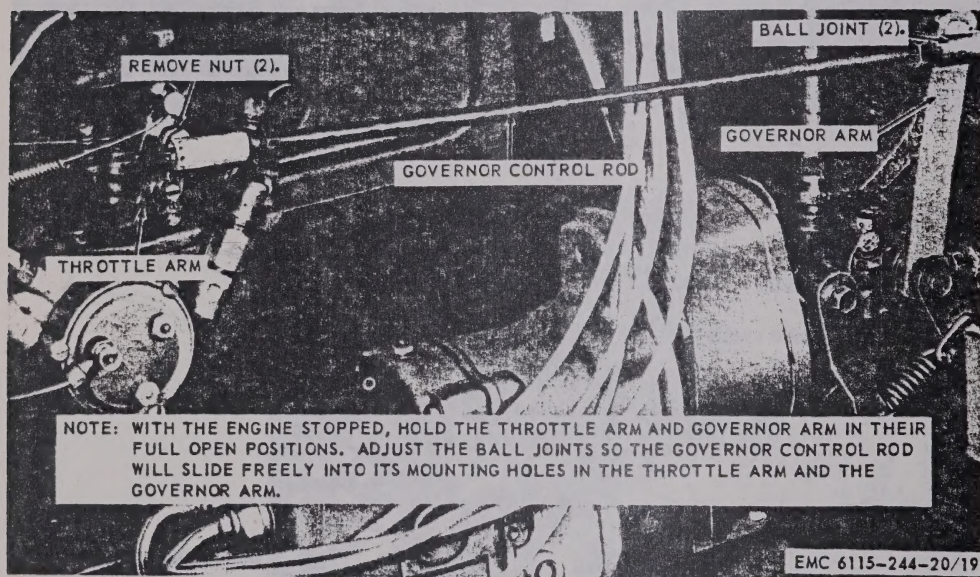

Figure 19. Governor control rod, removal, adjustment, and installation.
- (2) Connect the throttle control at the carburetor (par. 74).
a. Removal. Refer to figure 19 and remove the governor control rod from the engine.
- (1) Clean the governor control rod with an approved cleaning solvent and dry thoroughly.
- (2) Inspect for damage and defects.
- (3) Replace all parts that are excessively damaged, worn, or defective.
c. Adjustment. Refer to figure 19 and adjust the governor control rod.
d. Installation. Refer to figure 19 and install the governor control rod on the engine.